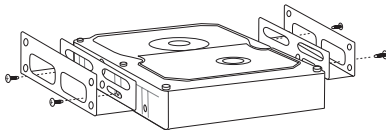

Figure 5
1. Attach the mounting brackets to the hard drive using the screws included with this kit. See Figure 5 for details.